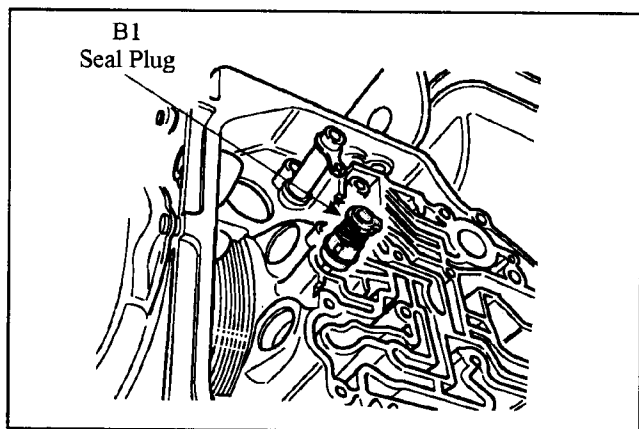

Figure 51
5. Remove the B1 clutch feed plug in the case and inspect the plug for cracks then remove the two o-rings from the plug and discard them (See Figure 51).